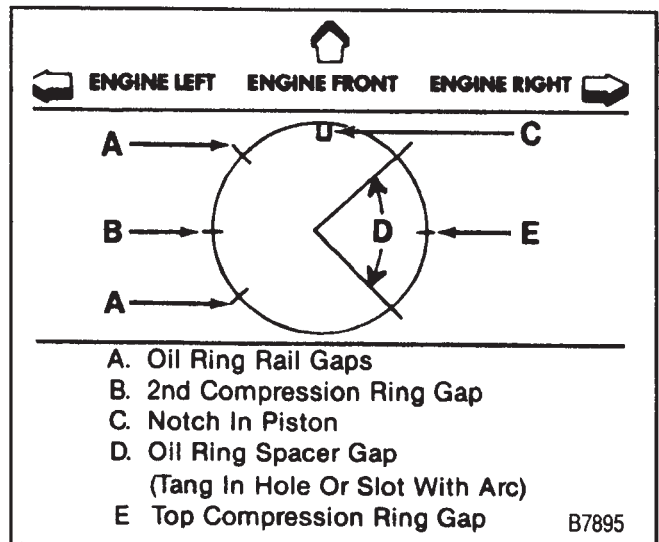

Figure 24—Piston Ring Gap Location
- B. Locate the piston ring end gaps as shown in figure 24. Lubricate the piston and rings with engine oil.
- D. The piston must be installed so the notch in the piston faces the front of the engine (figure 24).